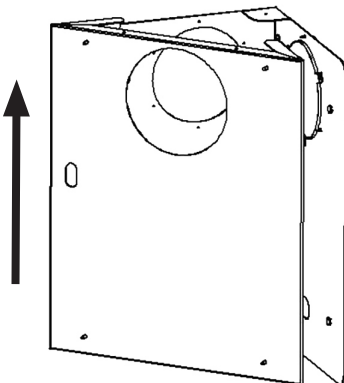

Figure 2
2. Remove the diagonal mounting plate as shown in **Figure 2**. Lift up on the diagonal mounting plate to disengage.